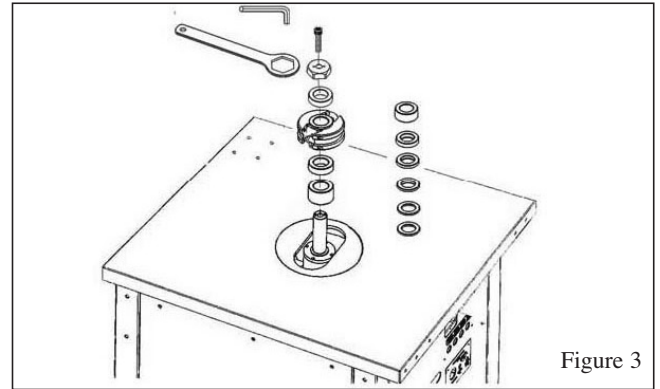

Figure 3
2. Position the moulding tool with the spindle ring onto the spindle and secure the lock flange with Allen bolt M12x25. See Figure 3.